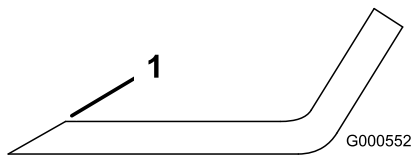

Figure 54
- Use a file to sharpen the cutting edge at both ends of the blade (Figure 54).
Note: If the blade is not balanced, file some metal off the end of the sail area only (Figure 54).